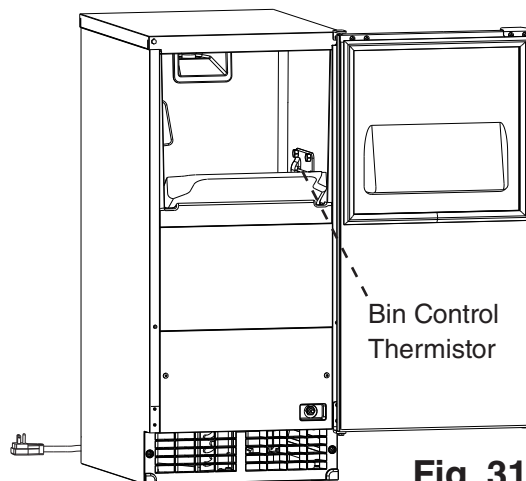

Fig. 31
- 7) At the end of the 30 min. run time, confirm bin control operation, by holding ice in contact with the bin control thermistor. See Fig. 31. The appliance shuts down within 30 sec. Remove the ice. After 30 sec. the appliance restarts the automatic icemaking process.